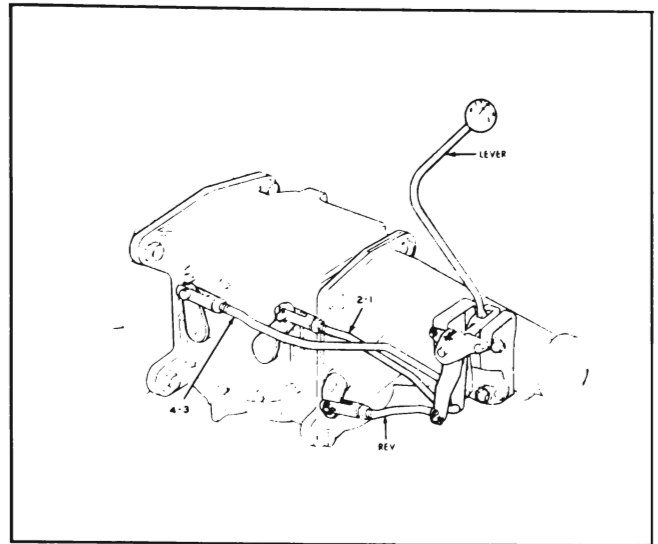

Figure 4-43—Four Speed Transmission Gearshift Linkage
2. Disconnect first, second, third and fourth shift rods from levers. See fig. 4-43.